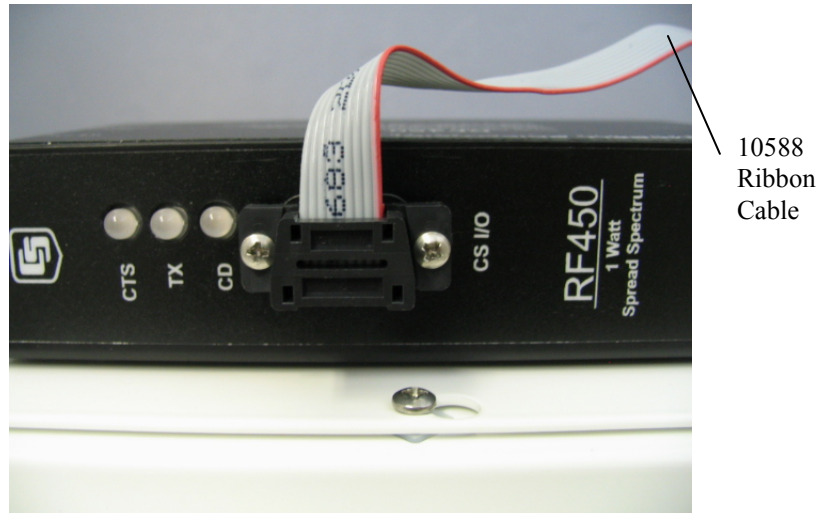

FIGURE 2.5-6. Attach Ribbon Cable to RF450 CS I/O Port
3. Connect the long 9-pin female end of the 10588 ribbon cable to the CS I/O port on the RF450 radio. Screw the connector to the radio using the provided two screws. See Figures 2.5-6.